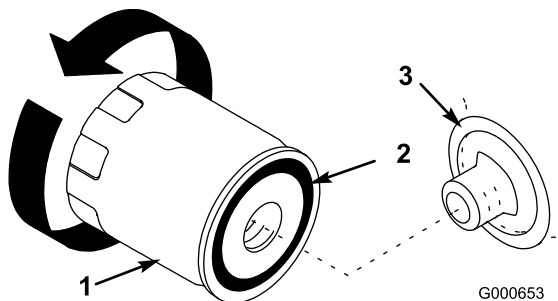

Figure 23
- Remove the old filter and wipe the filter adapter (Figure 23) gasket surface.
- Apply a thin coat of new oil to the rubber gasket on the replacement filter (Figure 23).
- Install the replacement oil filter to the filter adapter. Turn the oil filter clockwise until the rubber gasket contacts the filter adapter, then tighten the filter an additional 1/2 turn (Figure 23).